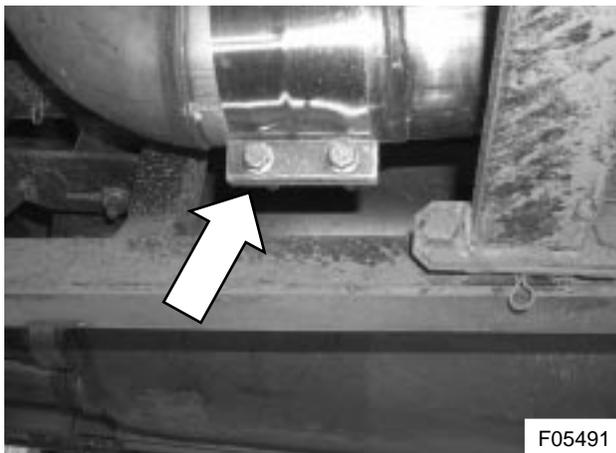

Figure 2: Downpipe to muffler elbow seal clamp
- 4) Working underneath the coach, loosen and remove the two bolts securing the downpipe to muffler elbow sealclamp (see Figure 2). Discard the sealclamp.